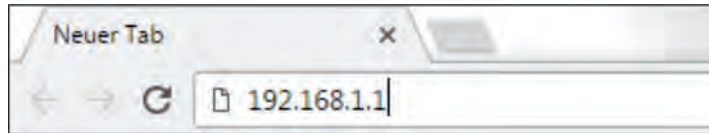

Fig. 30-23 Address field
6. Enter the IP address "192.168.1.1" in the address field (Fig. 30-23) and open.